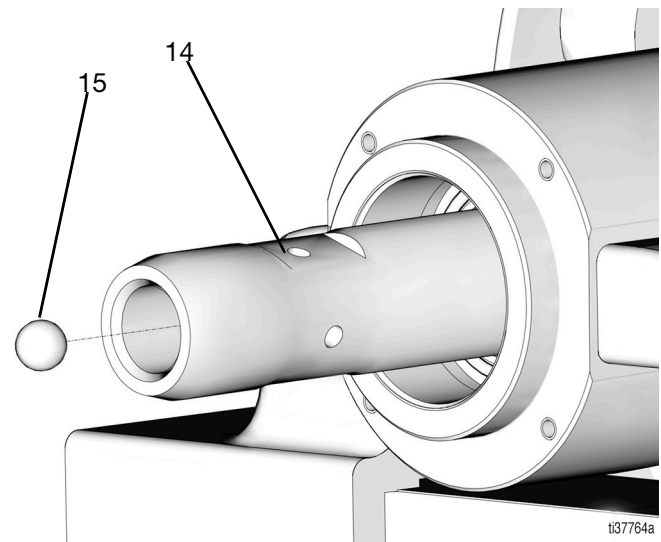

FIG. 13
15. Remove the check ball (15) from inside of the displacement rod (14) and set aside (FIG. 13).